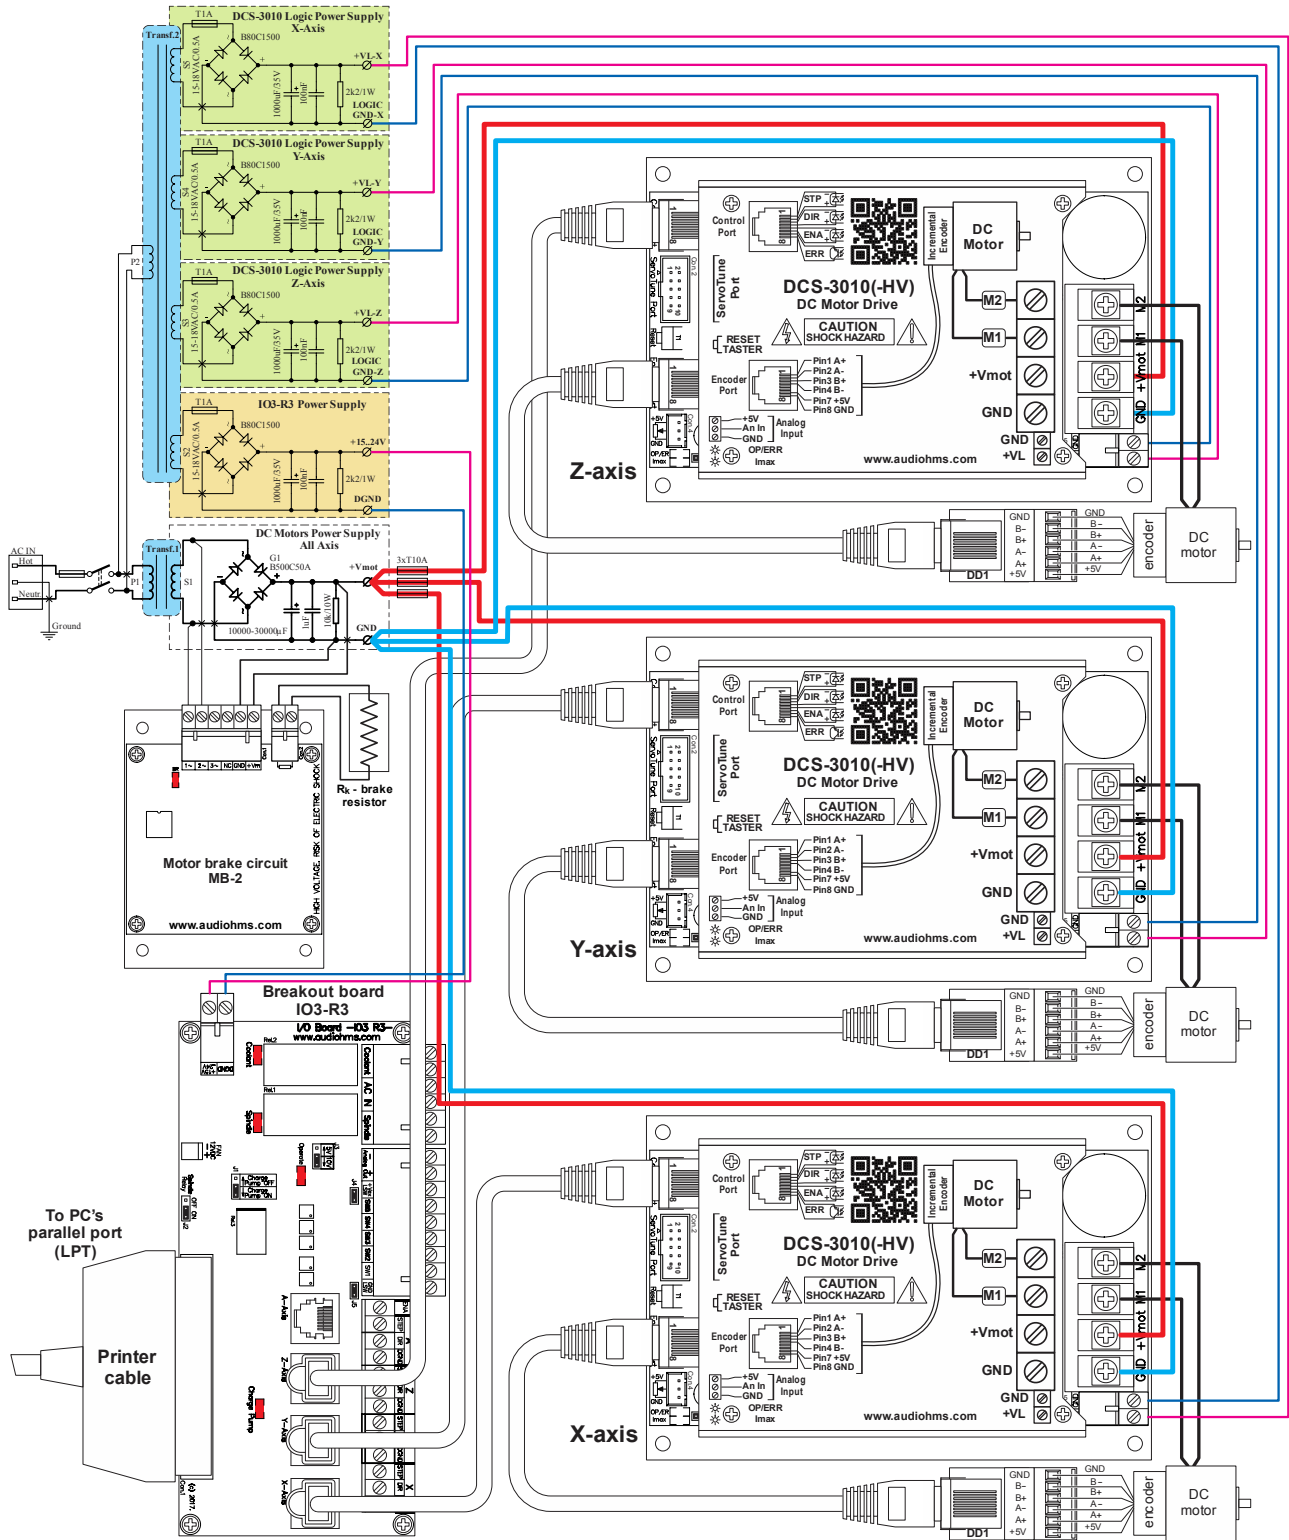

Figure 9
* Input SW5 is also activated if Tracking Error signal is presented on some of DC servo drives DCS-3010(-HV) and/or DCS-100-A (Figure 9)
Recommended wiring diagram of breakout board IO3-R3 with 3 DC servo drives DCS-3010(-HV) and motor brake circuit is shown in Figure 9. More details about this configuration can be found in user manual for DC servo drive DCS-3010(-HV). Input SW5 on breakout board IO3-R3 is also activated if Tracking Error signal is presented on some of DC servo drives DCS-3010(-HV) and/or DCS-100-A.